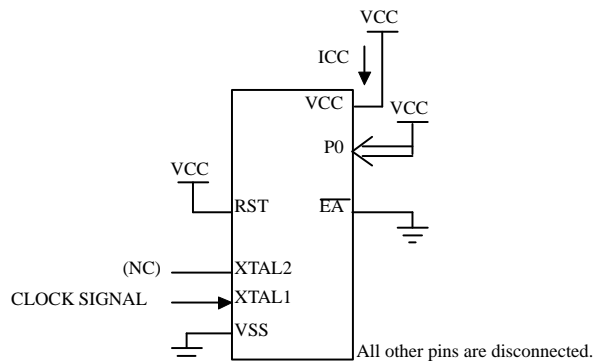
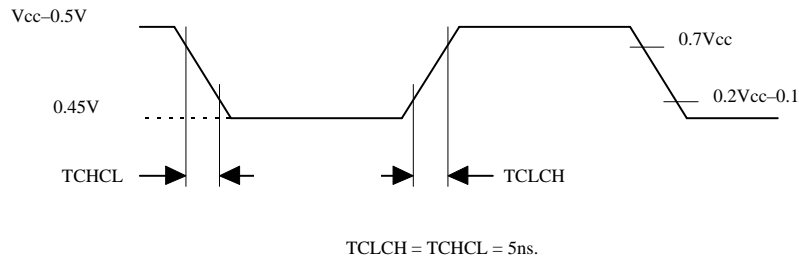

Figure 17. ICC Test Condition, Active Mode.
Figure 20. Clock Signal Waveform for ICC Tests in Active and Idle Modes.
1. ICC is measured with all output pins disconnected; XTAL1 driven with TCLCH, TCHCL = 5 ns (see Figure 20.), $V_{IL} = V_{SS} + 0.5\text{V}$, $V_{IH} = V_{CC} - 0.5\text{V}$; XTAL2 N.C.; EA = RST = Port 0 = VCC. ICC would be slightly higher if a crystal oscillator used (see Figure 17.).